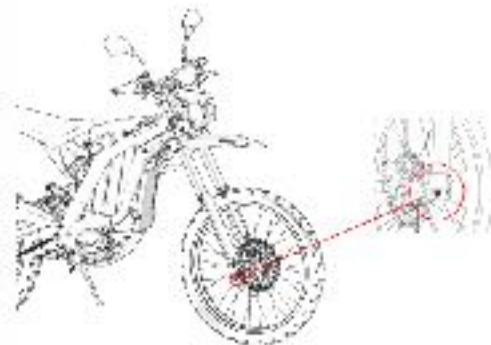

Fig 6
6.1 Adjust compression damping of front **absorber** (see Fig 6)